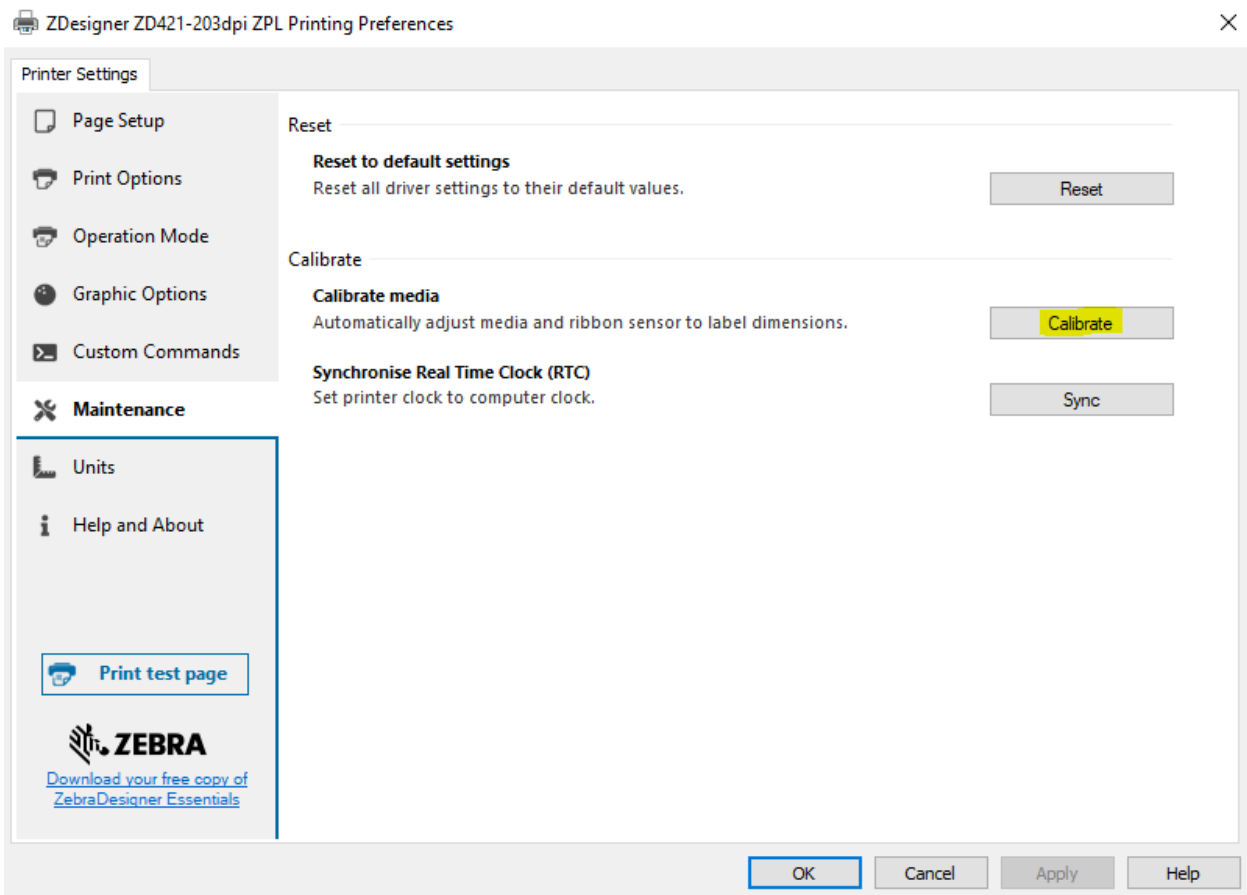

Figure 13: Calibrating the medium
- Figure 13: Calibrating the medium 10
If, when printing, there is a shift in the contents of the label, we advise to carry out medium calibration via printer drivers. In this procedure, the printer automatically adjusts the medium and the sensor to the label's dimensions. You can start the process by clicking the *Calibrate* in the **Maintenance** tab (see Figure 13).